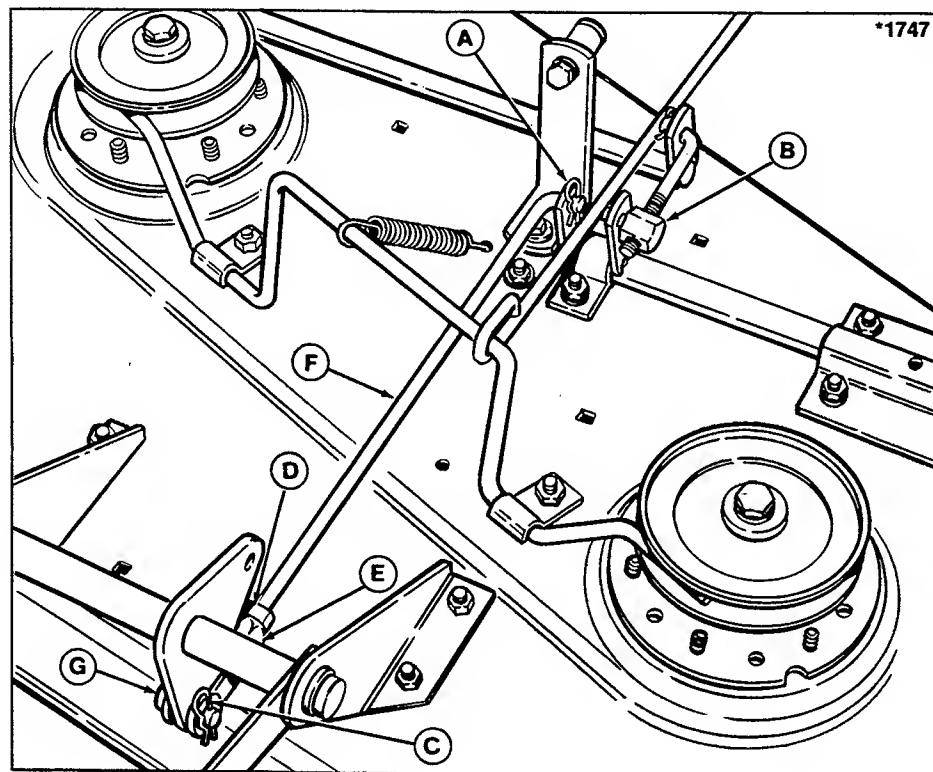

Figure 18. 36" Mower Leveling
4. Remove the clip (A, figure 18) which secures the pivot (B). Pull pivot (B) out of hole. To raise the right side of the mower, turn the pivot counterclockwise, so pivot moves toward front. To lower the right side of the mower, turn the pivot (B) clockwise, so pivot moves toward rear. Put the pivot back in the hole and recheck the measurement. If mower is level, install the clip (A). If not, readjust the rod.
- Remove the clip (C, figure 18) from the clevis (E). Loosen the jam nut (D) from the clevis (E). Pull the pin (G) out of the clevis. Turn the clevis clockwise to lower the rear of the mower. Turn the clevis counterclockwise to raise the rear of the mower. Reattach clevis with pin and recheck the measurement. If measurement is correct, tighten nut (D) against clevis, and reinstall rod and clip (C).